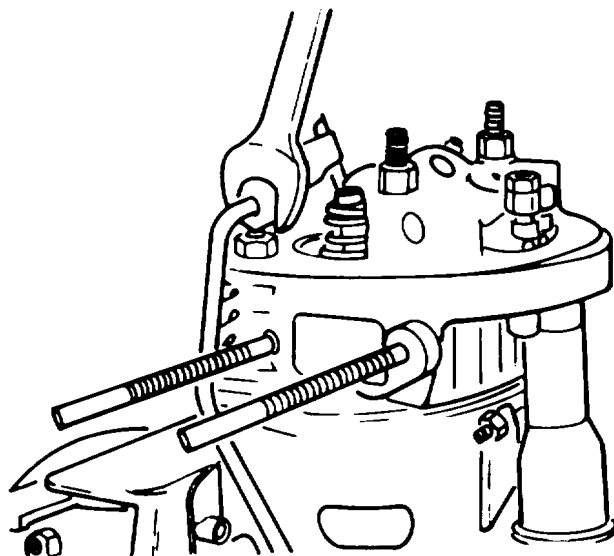

Figure A-6. Fuel Line Nut
- (1) Loosen the fuel line nut at the fuel injector with a standard 17mm open end wrench. Remove the fuel line. (Figure A-6)